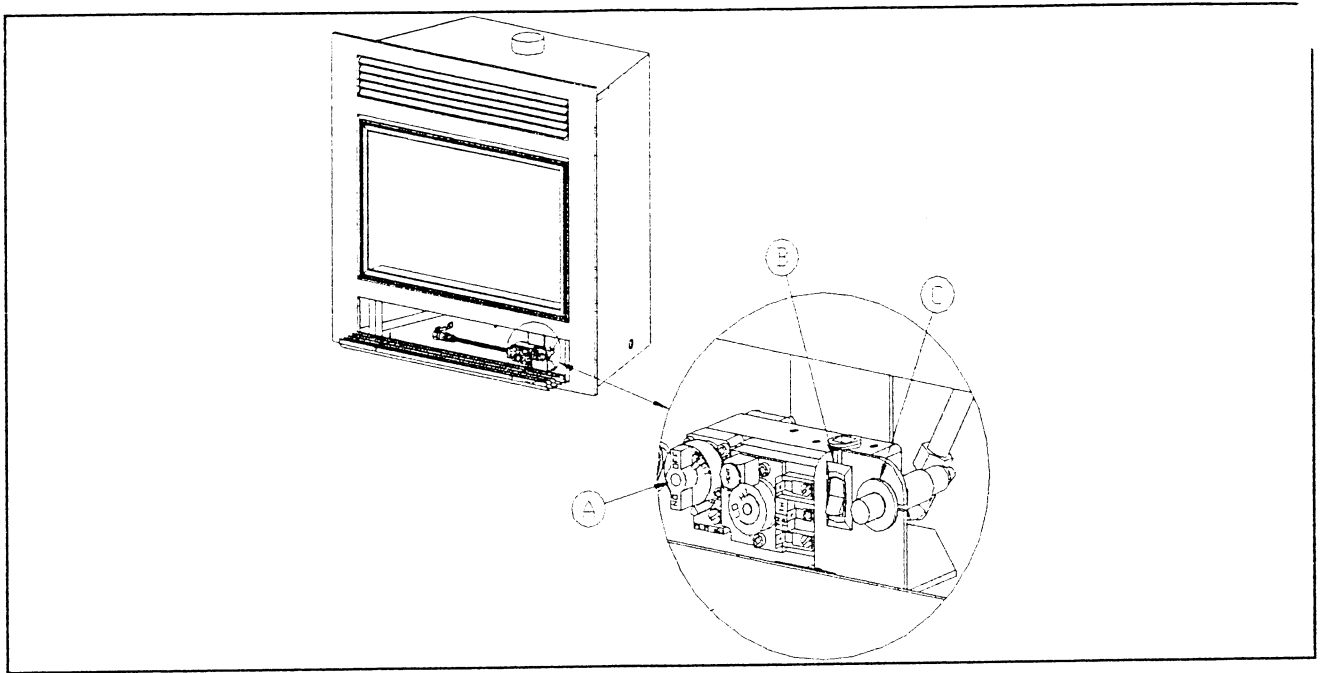

Figure 14
K) LIGHTING AND SHUTDOWN. See Figure 14.